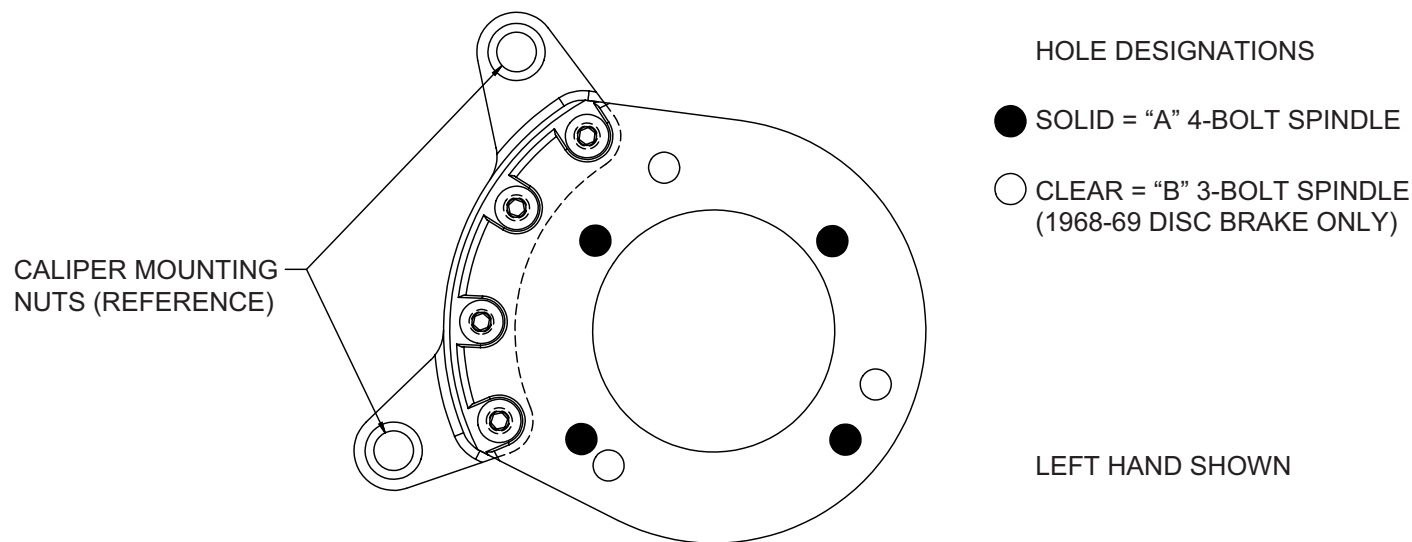
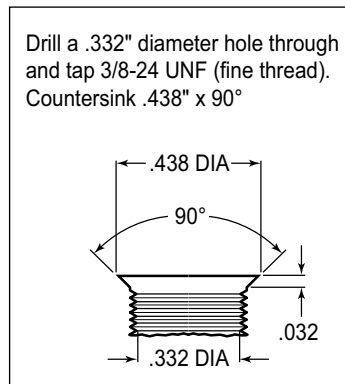
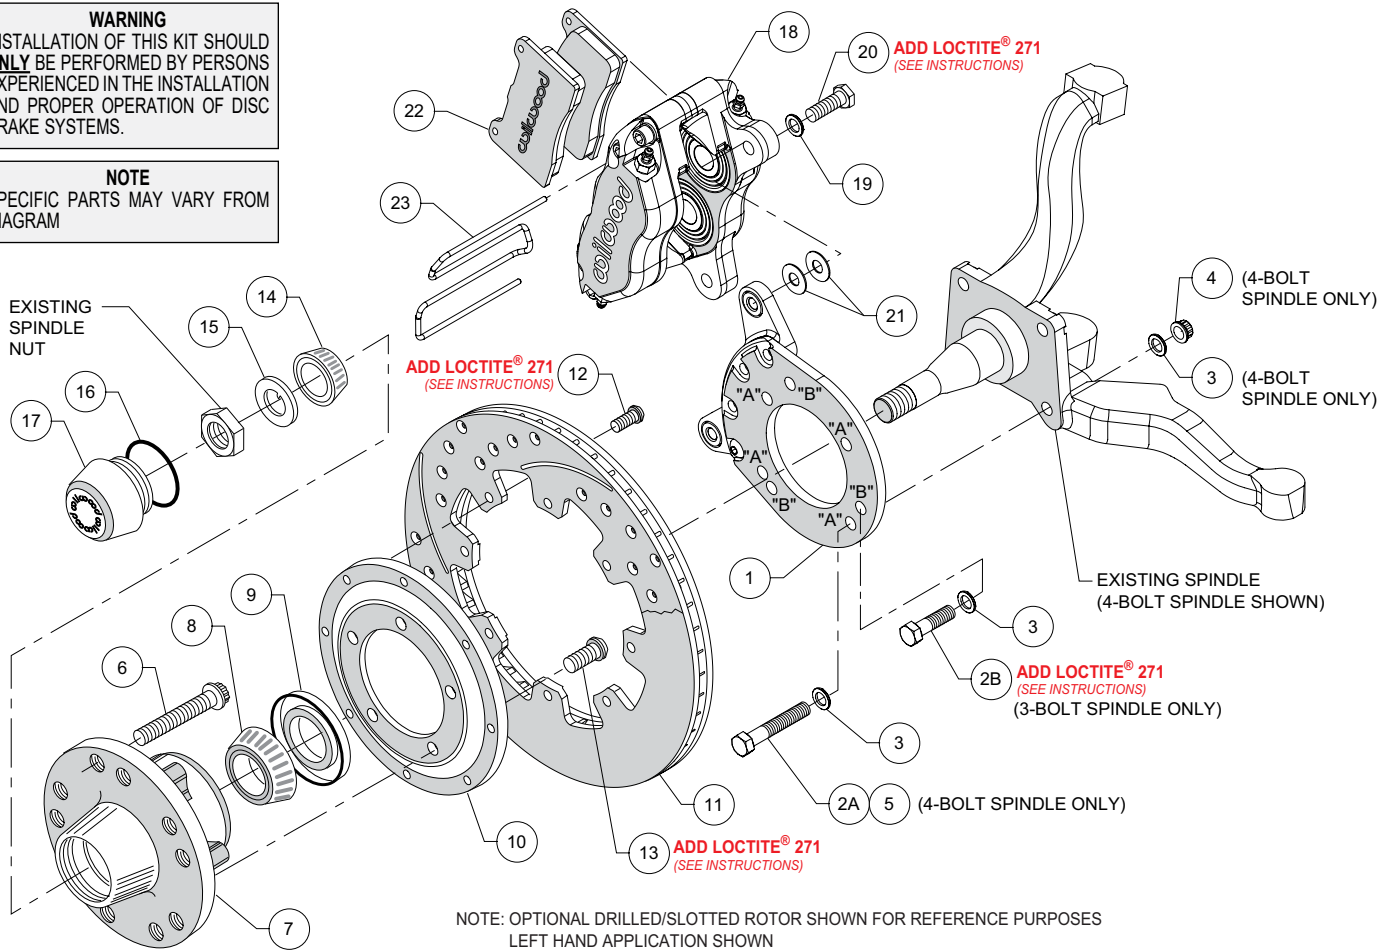
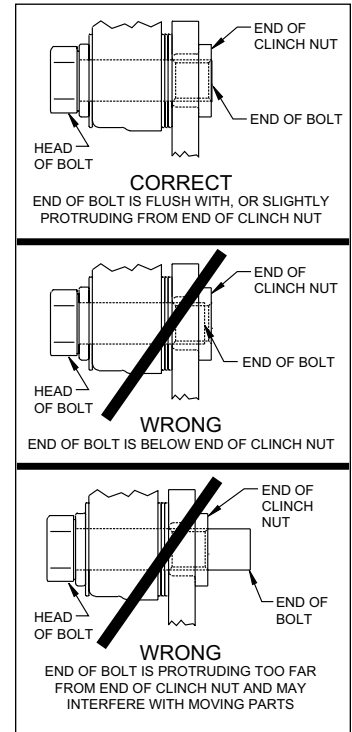

Figure 1. Wilwood Caliper Mounting Bracket
Figure 2. Drill and Tap Detail
Figure 4. Typical Installation Configuration
Figure 5. Clinch Nut Engagement Diagram
This kit has been designed for use with both three and four bolt spindle configurations. The only difference is in how the Wilwood caliper mounting bracket is installed. The same bracket is used for both configurations; only the 1968-69 disc brake spindle utilizes three mounting holes while all other spindles use the four mounting holes (see Figure 1). For your convenience we have supplied bolt kits for both applications (see parts list and Figure 4 as necessary). Use the bolt kit that is applicable to your vehicle and disregard the other one.
NOTE: This modification should be performed by a qualified machinist and completed before assembly of the Wilwood disc brake kit begins. Using the caliper mounting bracket as a template (refer to Figure 1 as necessary), locate and verify the three original holes on the spindle that need to be modified. Drill a .332" diameter hole through all three holes, then tap 3/8-24 UNF (fine thread). Countersink the holes to .438" diameter x 90°, as shown in Figure 2.
NOTE: Numbers in parenthesis refer to the parts list on the preceding page and Figure 4.
CAUTION: All mounting bolts must fully engage clinch nuts. Be sure to check that all bolts are either flush or protruding through flanged side of clinch nut after shimming, Figure 5.
•**NOTE:** This kit uses the same mounting bracket (1) for both the three and four bolt brake spindles. The 4-bolt version, Photo 1, uses four mounting bolts (designated "A"), while the 3-bolt version, Photo 2, uses three (designated "B"). Refer to Figures 1 and 4 for the basic installation position of the bracket and the "A" and "B" reference designations (not physically marked on the brackets).
For 4-Bolt Spindle: Align bracket, using the four "A" holes, to the face of the spindle and attach using bolts (2A and 5), washers (3), and lock nuts (4), as shown in Figure 4. Ensure that the flanged heads of the clinch nuts in the bracket are facing outboard, Photo 1. Torque nuts to 30 ft-lb.
For 3-Bolt Spindle (1968-69 Disc Brake): Align bracket, using the three "B" holes, to the face of the spindle and attach using bolts (2B) and washers (3), as shown in Figure 4. Finger tighten. Ensure that the flanged heads of the clinch nuts in the bracket are facing outboard, photo 2. Remove bolts one at a time, apply red *Loctite*® 271 to threads, and torque to 40 ft-lb.
•Install the grease seal (9) by pressing into the backside of the hub (7), flush with the end of the hub, Photo 4.
•Orient the rotor (11) and the rotor adapter (10) as shown in Figure 4 and Photo 5. Attach the rotor to the adapter using bolts (12). Using an alternating sequence, apply red *Loctite*® 271 to the threads, and torque to 25 ft-lb.
•Mount the adapter/rotor assembly (10/11) to the hub (7) using bolts (13), as shown in Figure 4 and Photo 6. Using an alternating sequence, apply red *Loctite*® 271 to the threads, and torque to 45 ft-lb.
•**NOTE:** Please reference the caution statement at the beginning of the assembly instructions. Mount the caliper (18) onto the caliper mounting bracket (1) using bolts (20) and washers (19), as shown in Figure 4. Initially place two .035" thick shims (21) on each bolt between the caliper and the bracket, Photo 9. Temporarily tighten the mounting bolts and view the rotor (11) through the top opening of the caliper. The rotor should be centered in the caliper, Photo 10. If not, adjust by adding or subtracting shims between the bracket and the caliper. Always use the same amount of shims on each of the two mounting bolts. **NOTE:** The end of each bolt must be flush with or slightly protruding from the head of the clinch nut, as shown in Figure 5. If necessary place spare shims between washer (19) and caliper mounting ear to achieve the proper clinch nut engagement. Once the caliper alignment and clinch nut engagement are correct, remove the bolts one at a time, apply red *Loctite*® 271 to bolt threads, and torque to 40 ft-lb.